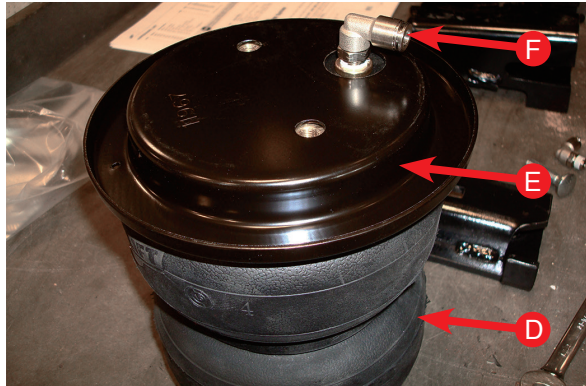

fig. 8
1. Set a roll plate (E) on top of the air spring (D). The radiused or rounded edge of the roll plate will be towards the air spring so that it is seated inside the roll plate (fig. 8). Install the 90° swivel fitting (F) into the top of the air spring, finger tight plus one and a half turns.